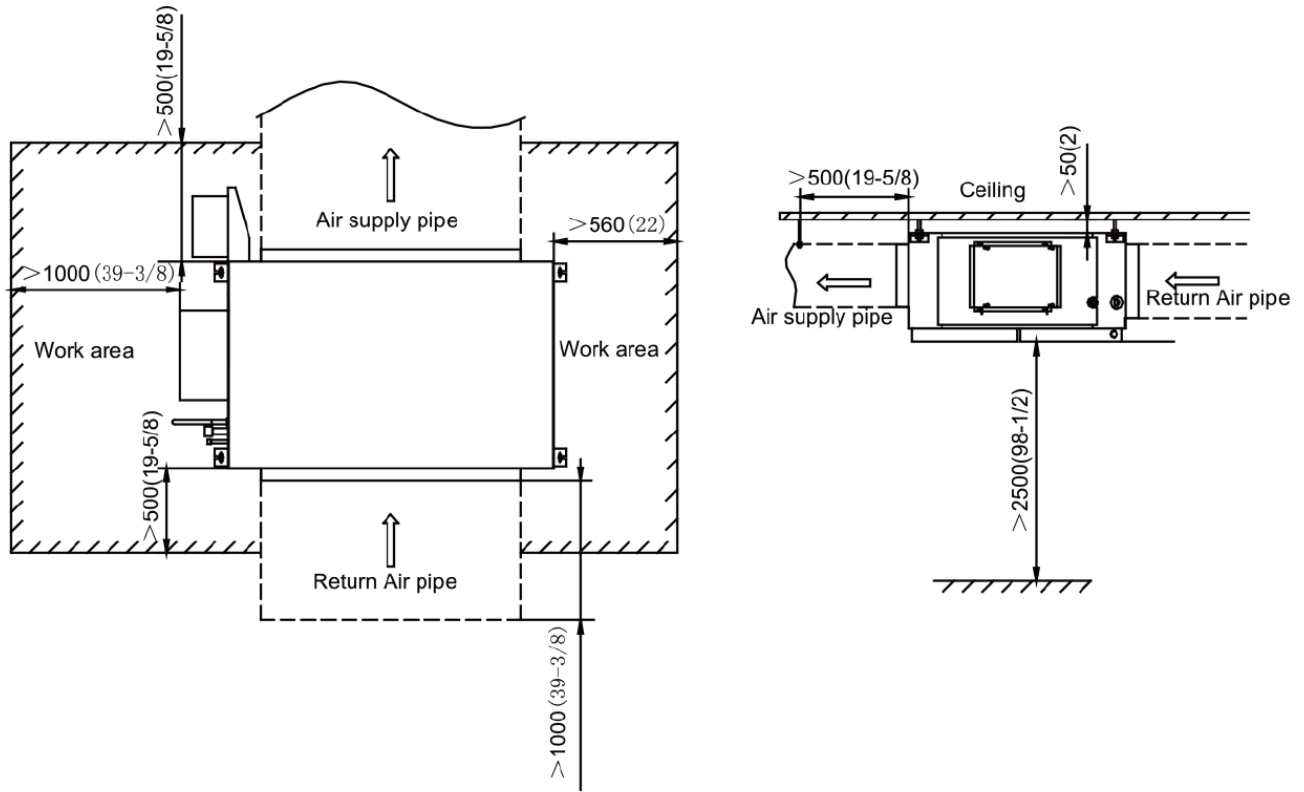

Fig1
7. There should be adequate space around the unit for proper maintenance and service. Install the indoor unit according to the dimension described below in (Fig1).